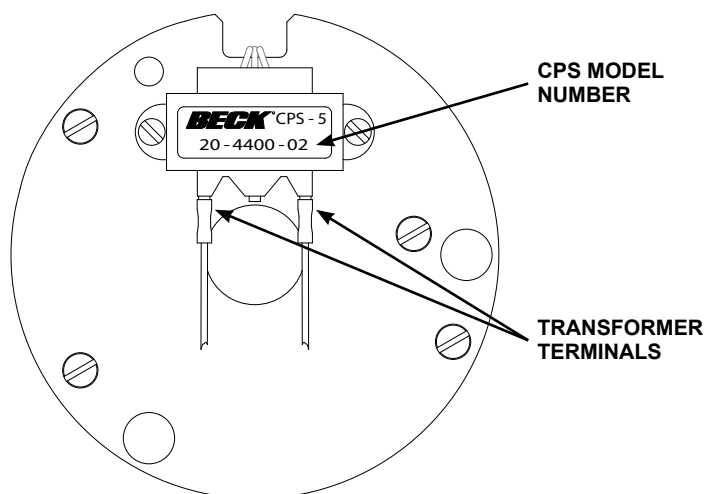

Figure 9: CPS-5 Tranformer Side
12. Divide the difference between the measured span, step 11, and the desired span by 2. Adjust the Span Potentiometer by this amount (see Figure 9, page 21). NOTE: CW movement of the Span Potentiometer moves the ends of the signal range away from each other, while CCW movement moves the ends of the signal range toward each other.
7. Subtract the two signal readings and compare to the desired output signal span; i.e., 16 mA for 4–20 mA signal range. Divide the difference between the measured and desired span by 2. Adjust the Span Potentiometer by this amount with the actuator at the 100% position. CW movement of the Potentiometer increases the span equally at both ends. CCW movement of the Potentiometer decreases the span equally at both ends (see Figure 9, page 21, for location of Span Potentiometer).